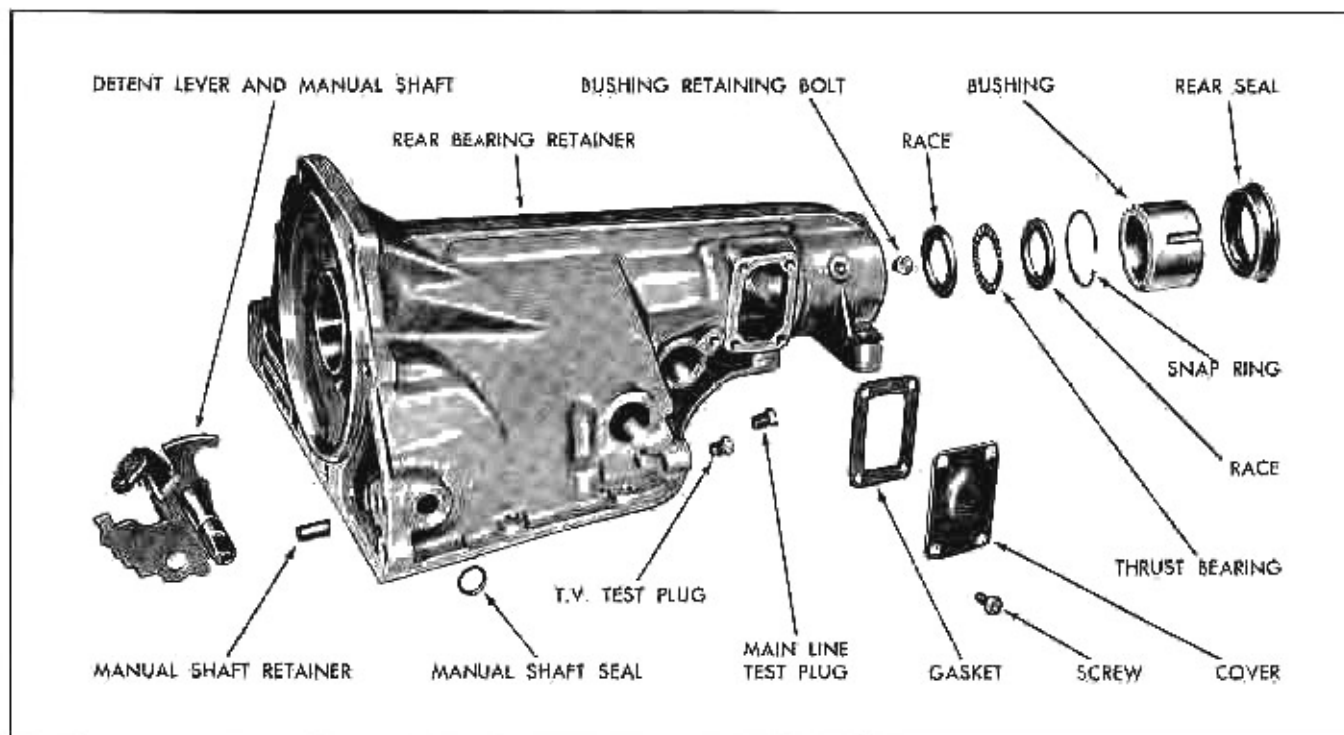

Fig. 97 Rear Bearing Retainer
4. Remove the rear thrust bearing race to rear bearing retainer truearc snap ring through access hole in retainer (Fig. 97).